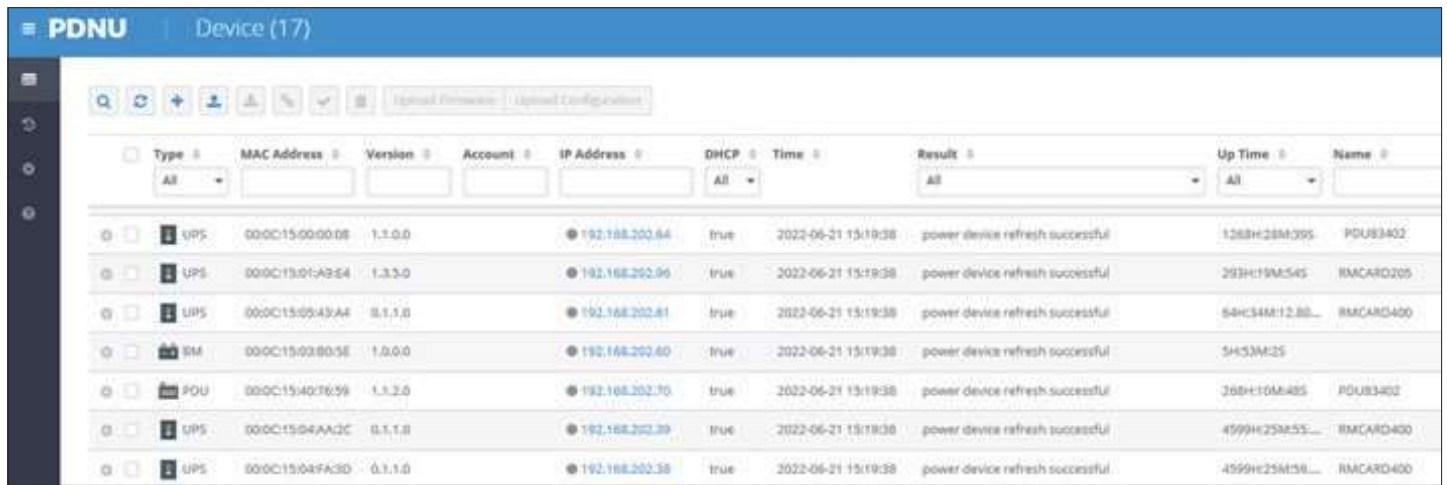

Figure 1. The main window of the “Power Device Network Utility 2” program.
3. The main window of the Power Device Network Utility program is shown in Figure 1. The configuration tool will display all CyberPower Remote Management devices present on the local network subnet. The "Refresh" button is used to search the local network subnet again.